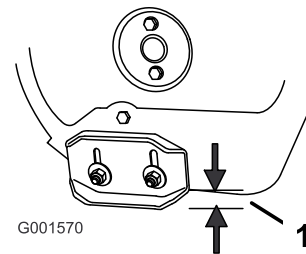

Figure 42
2. Loosen the nuts that secure both skids to the auger sides until the skids slide up and down easily (Figure 42).